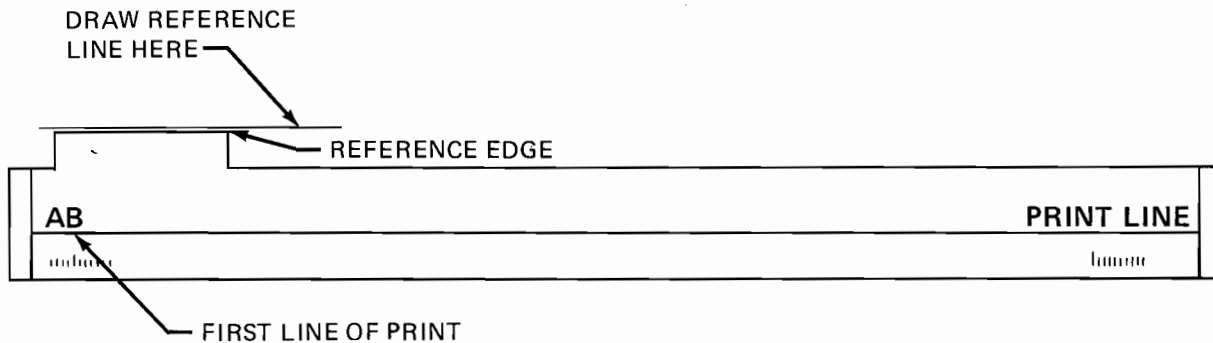

Figure 4
4. Position the paper so the bottom of the first line to be printed on the form is just above the PRINT LINE on the formscale as shown in figure 4.
5. Draw a reference line on the paper immediately above the reference edge of the formscale as shown in figure 4.